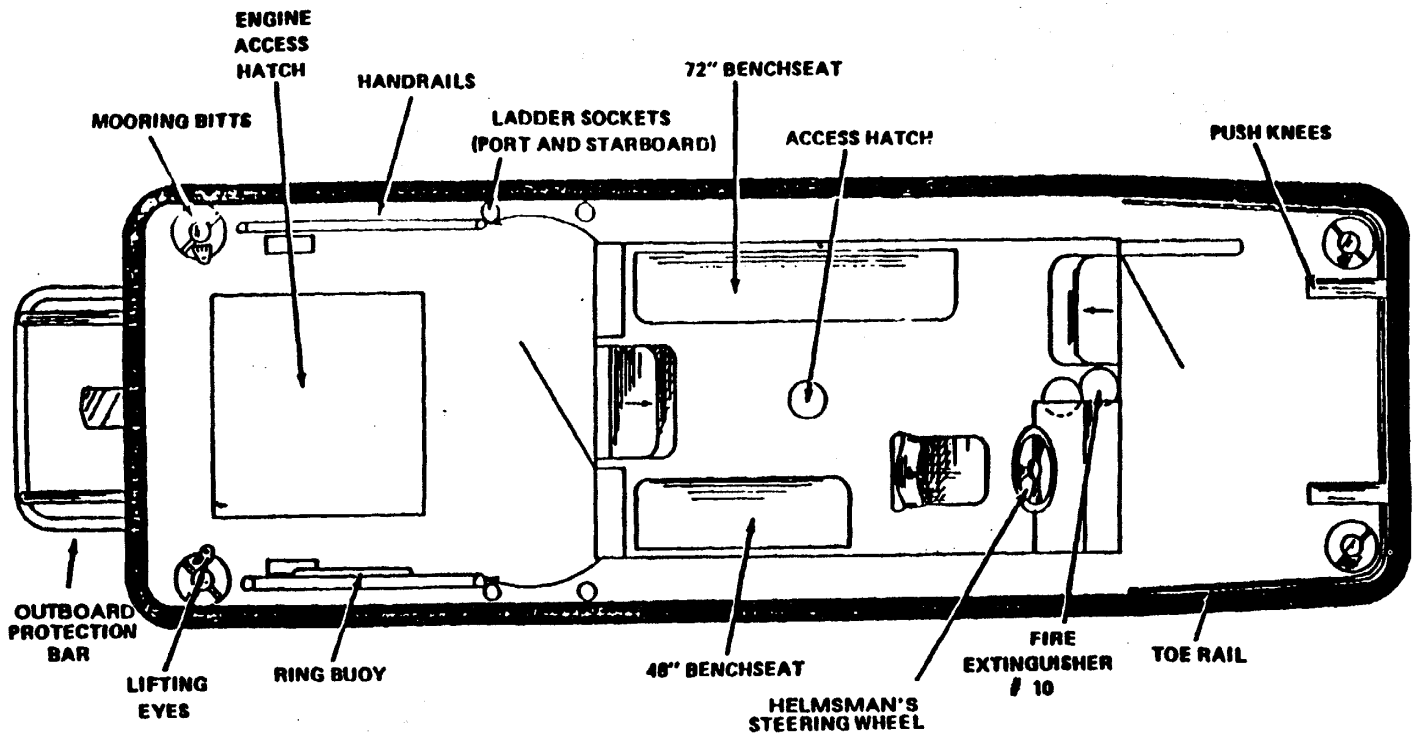

Figure 17-1. Workboat Components and Location
**17-3.1** Workboat (see Figure 17-1) is a 23-foot, reinforced aluminum-hulled, triple-V-bottomed craft with a forward cabin for six passengers plus the operator and a flush after-deck for small cargo and messenger line reel unit. Closed cell flotation foam has been used to fill the forward compartment, under the cabin floor, and small compartments on both sides of the engine compartment. Workboat has two push knees on the bow, an aluminum tubular protective frame around the outboard drive, and two bow-and two stern mooring bitts. Workboat has a diving ladder that fits into sockets on either port or starboard just aft of cabin and forward of aft guard rail. Lifesaving equipment includes eight lifevests stowed under cabin benchseats and a ring lifebuoy with floating marker light and line.